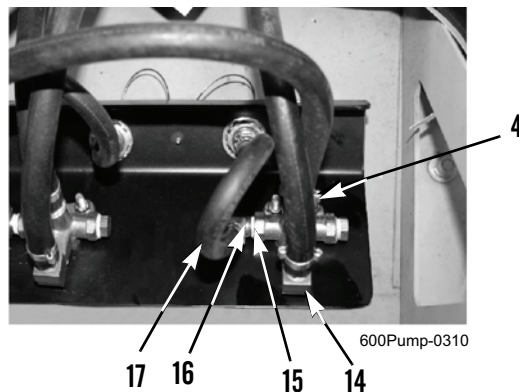

Figure 3. Fuel Suction Selector Valve.
7. Cut three hose clamps (Figure 3, Item 16) from hoses (Figure 3, Item 17) at fuel suction selector valve (Figure 3, Item 4). Discard hose clamps.
8. Hold three hoses (Figure 3, Item 17) at fuel suction selector valve (Figure 3, Item 4) and remove fittings (Figure 3, Item 15) and hoses from elbows (Figure 3, Item 14).
9. Remove two elbows (Figure 3, Item 14) from fuel suction selector valve (Figure 3, Item 4).